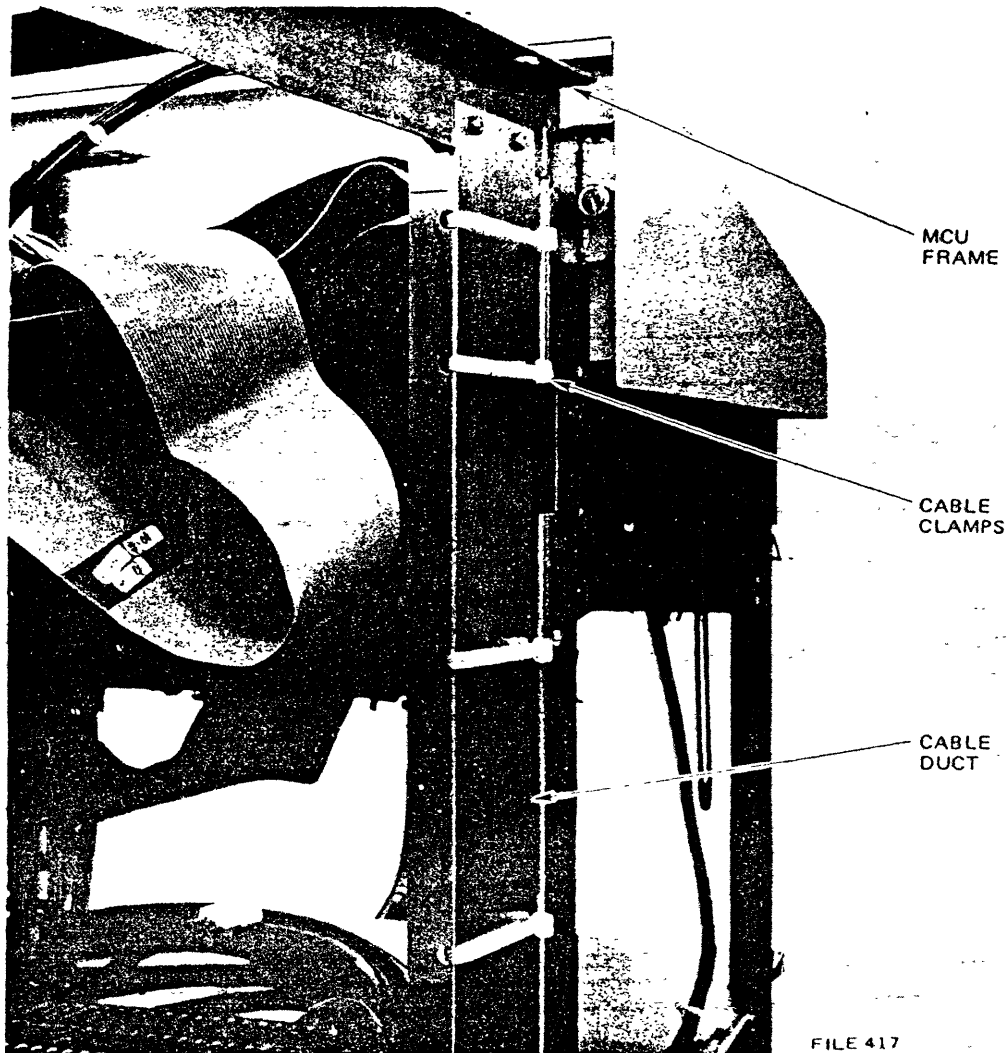

Figure 20-3. Large Capacity Disk Cable Installation
- p. Route the LCD signal cables through the left-side bracket cable clamps and up through the cable duct (Figure 20-3).